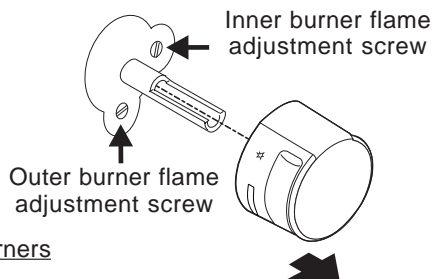

Fig. 2
- Use a thin-bladed screwdriver and adjust the inner burner flame size with the right-hand set screw (See Fig. 2). Adjust the outer burner flame size with the lower set screw (See Fig. 2). Turn counterclockwise to increase flame size. Turn clockwise to decrease flame size.